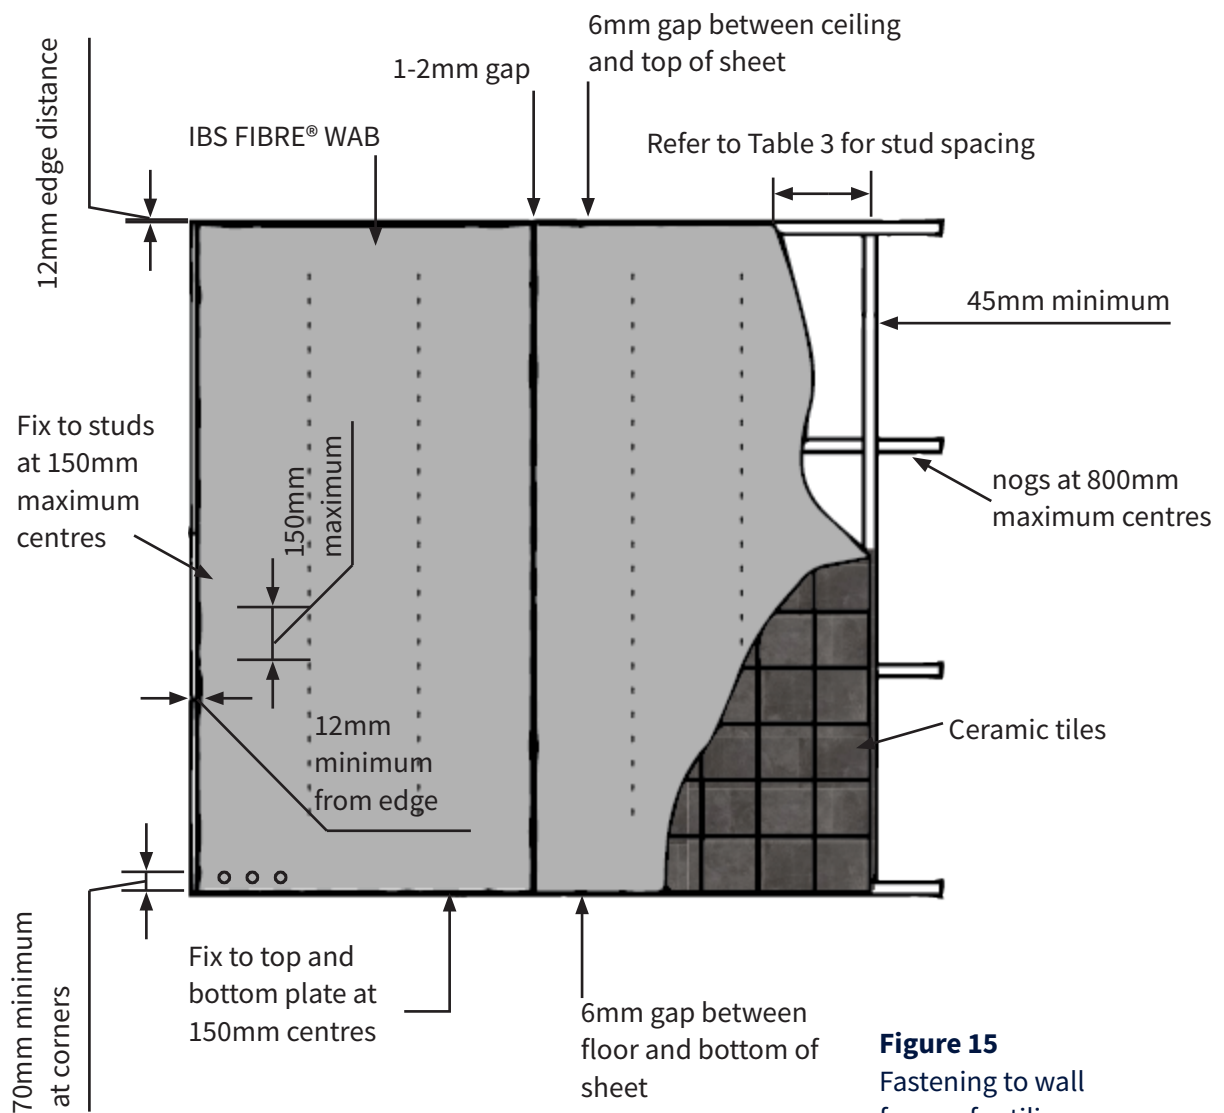

Figure 15
For more details, refer to Figure 15 below.
5. Do not stagger fixings at joints (see Figure 15).